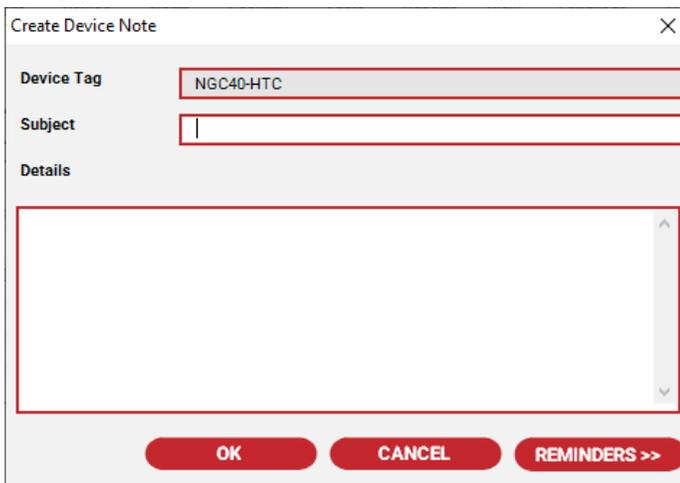

Figure 4-32 Create a New Note
2. Select the **Create Note** option. The Create Device Note window displays (refer to Figure 4-32 Create a New Note).